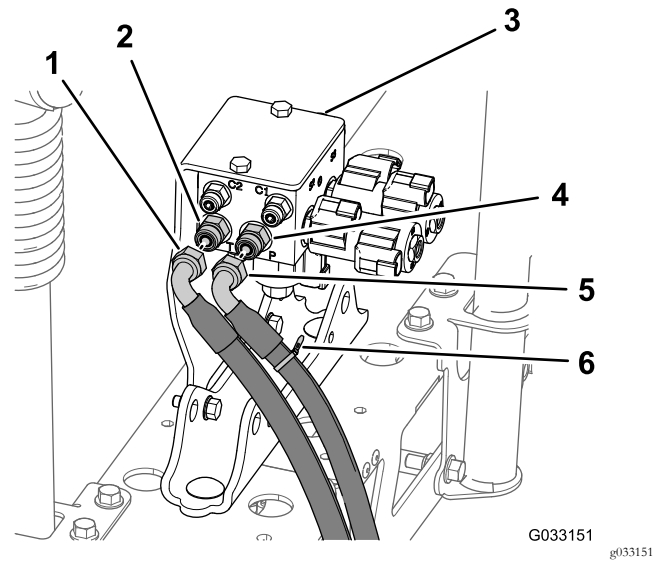

Figure 66
- At port P of the boom-lift manifold, mark the pressure hydraulic hose with a cable tie (Figure 66).
- Disconnect hydraulic pressure and return hoses from the boom-lift manifold (Figure 66).